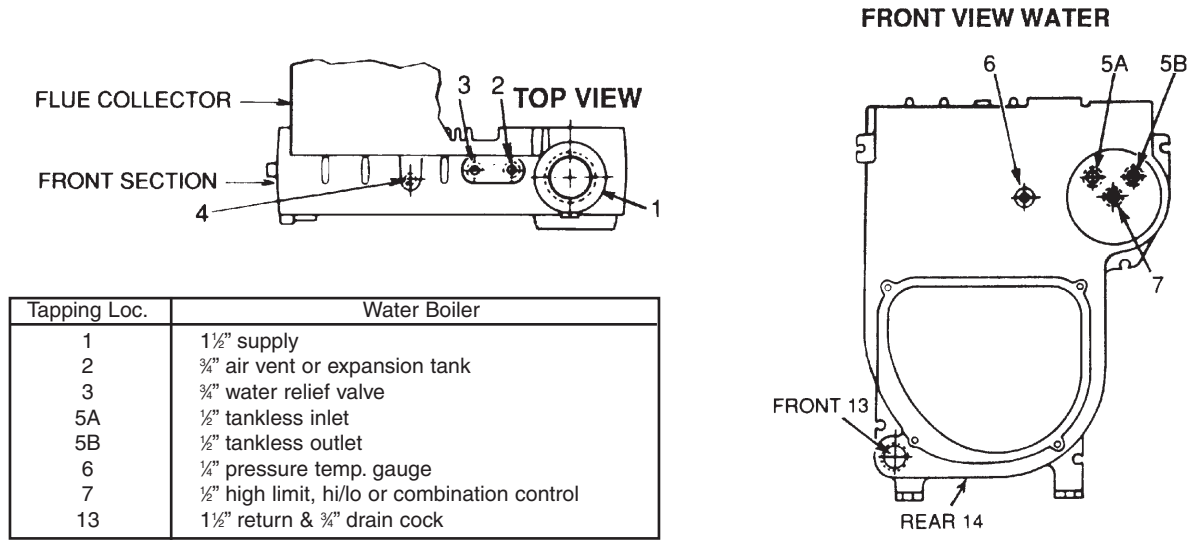

Figure 1
- I. WATER BOILER TRIM, see page 2 for tapping locations, and figures 1 and 2 for illustration of water boiler.